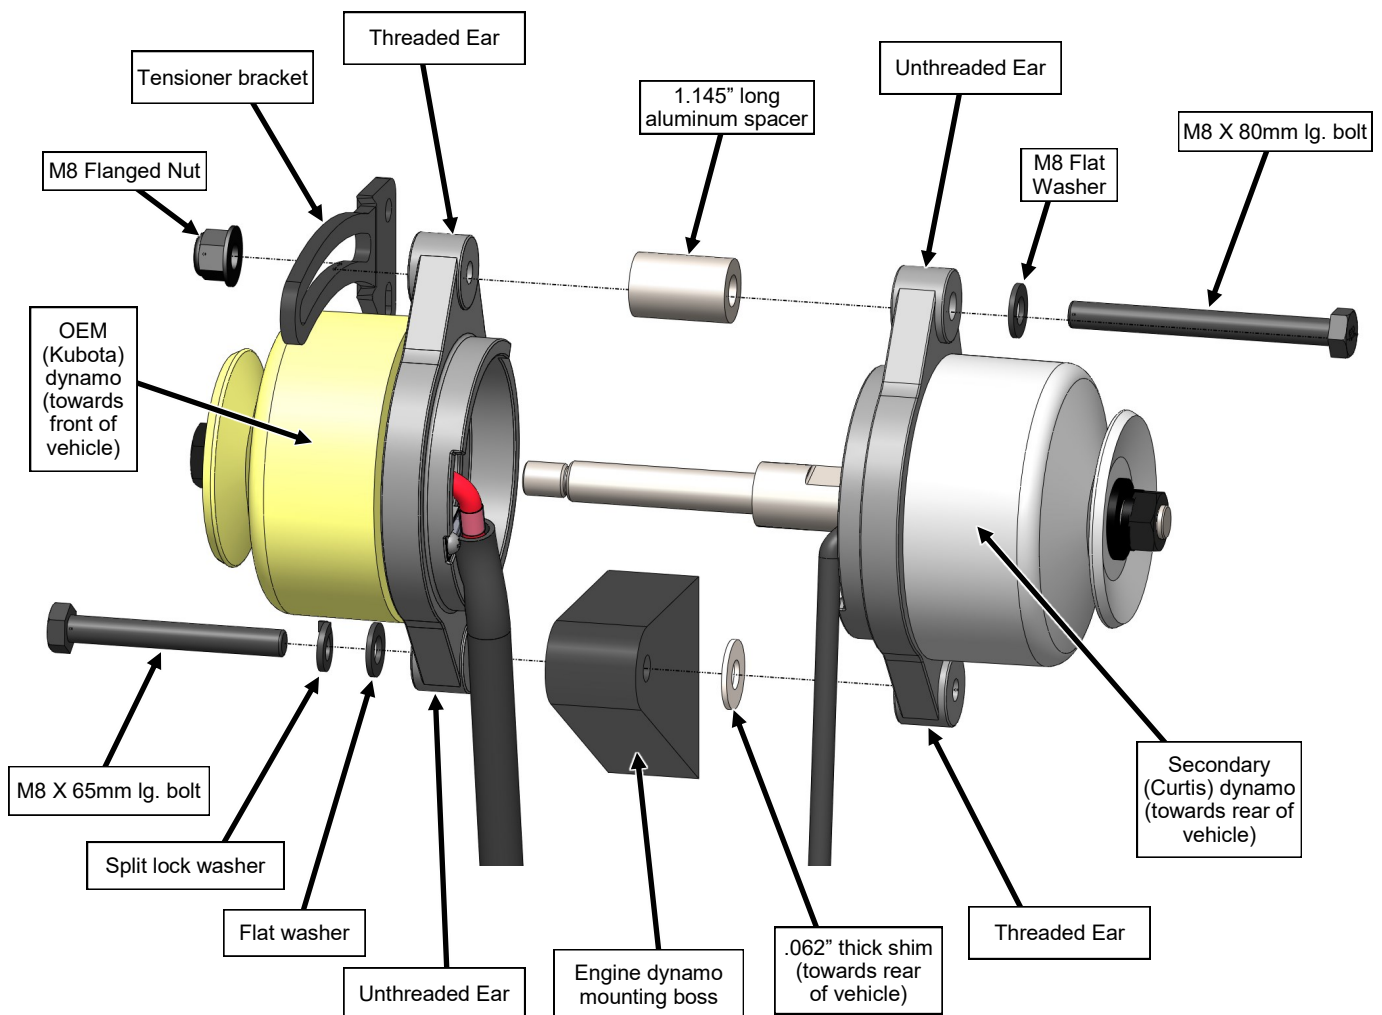

Fig. 2.9 (Double Dynamo Exploded View)
- 2.9 Verify all components are in correct positions per the fig. 2.9 exploded view below. Re-install the OEM belt onto the dynamo and tension to OEM specifications. **NOTE: When fully tightening the M8 flanged locknut, you must use a wrench on the head of the bolt to prevent it from unthreading from the OEM dynamo mounting ear.** Tighten the flanged nut on the top bolt at this time. Tighten the lower pivot bolt last.